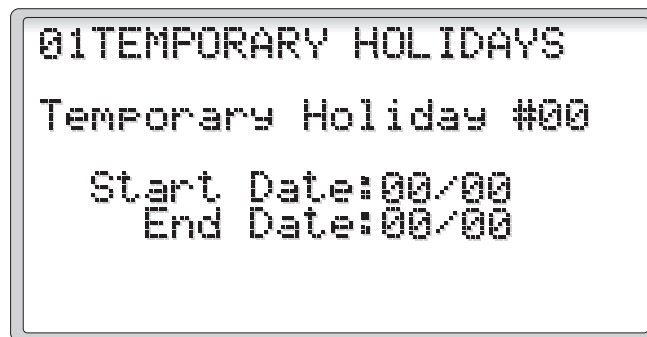

Figure 28
2.3.2.3 Temporary Holidays (Figure 28)